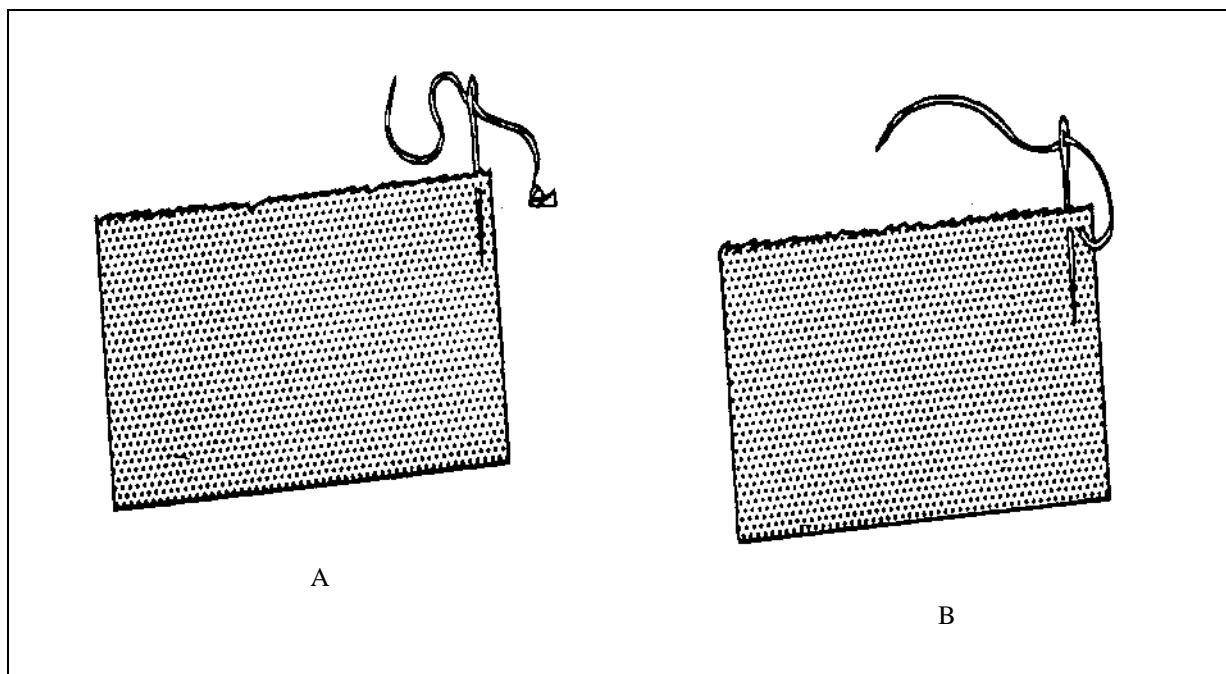

Figure 2-8. Whipstitch
e. Whipstitch (Slant Hemming or Overcast Stitch). The whipstitch (Figure 2-8) is used to finish raw edges to keep them from unraveling. To make a row of whipstitches--
- (1) Stick the needle through the cloth, and pull the thread through the cloth to the knot.
- (2) Backstitch to tack the beginning of the row.
- (3) Stick the needle into the cloth 1/6 to 1/8 inch from the raw edge.
- (4) Working diagonally, pass the thread and needle over the raw edge.
- (5) Stick the needle into the cloth 1/16 to 1/8 inch from the raw edge and 1/16 to 1/8 inch from the previous stitch.
- (6) Keep the stitches small and even, and stitch until the raw edge is finished.
- (7) Backstitch to tack the row at the end.
- (8) Make a knot in the thread close to the cloth, and cut off the remaining thread.